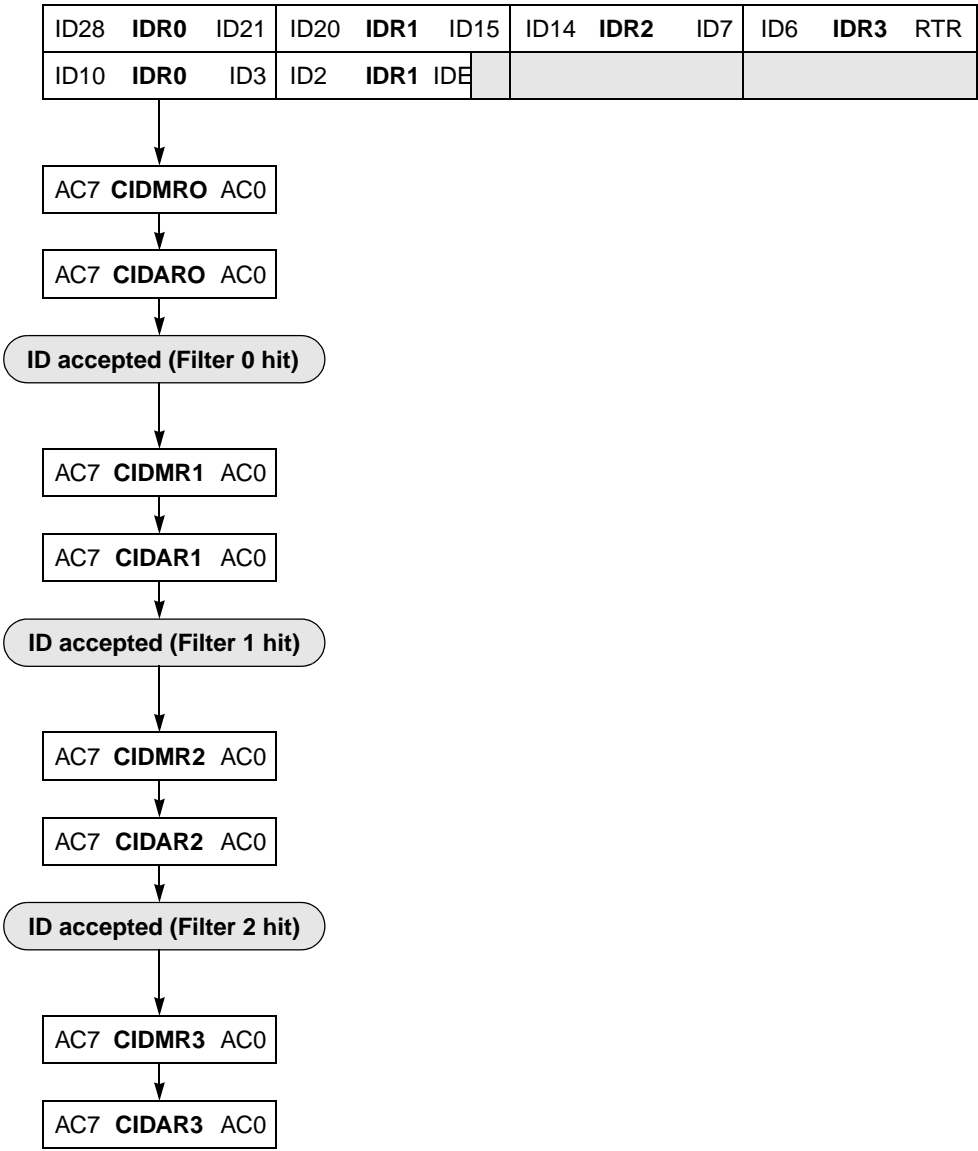

Figure 17-5. 8-bit Maskable Acceptance Filters
- Eight identifier acceptance filters, each to be applied to the first 8 bits of the identifier. This mode implements eight independent filters for the first 8 bits of a CAN 2.0A/B compliant standard identifier or of a CAN 2.0B compliant extended identifier. Figure 17-5 shows how the first 32-bit filter bank (CIDAR0–3, CIDMR0–3) produces filter 0 to 3 hits. Similarly, the second filter bank (CIDAR4–7, CIDMR4–7) produces filter 4 to 7 hits.